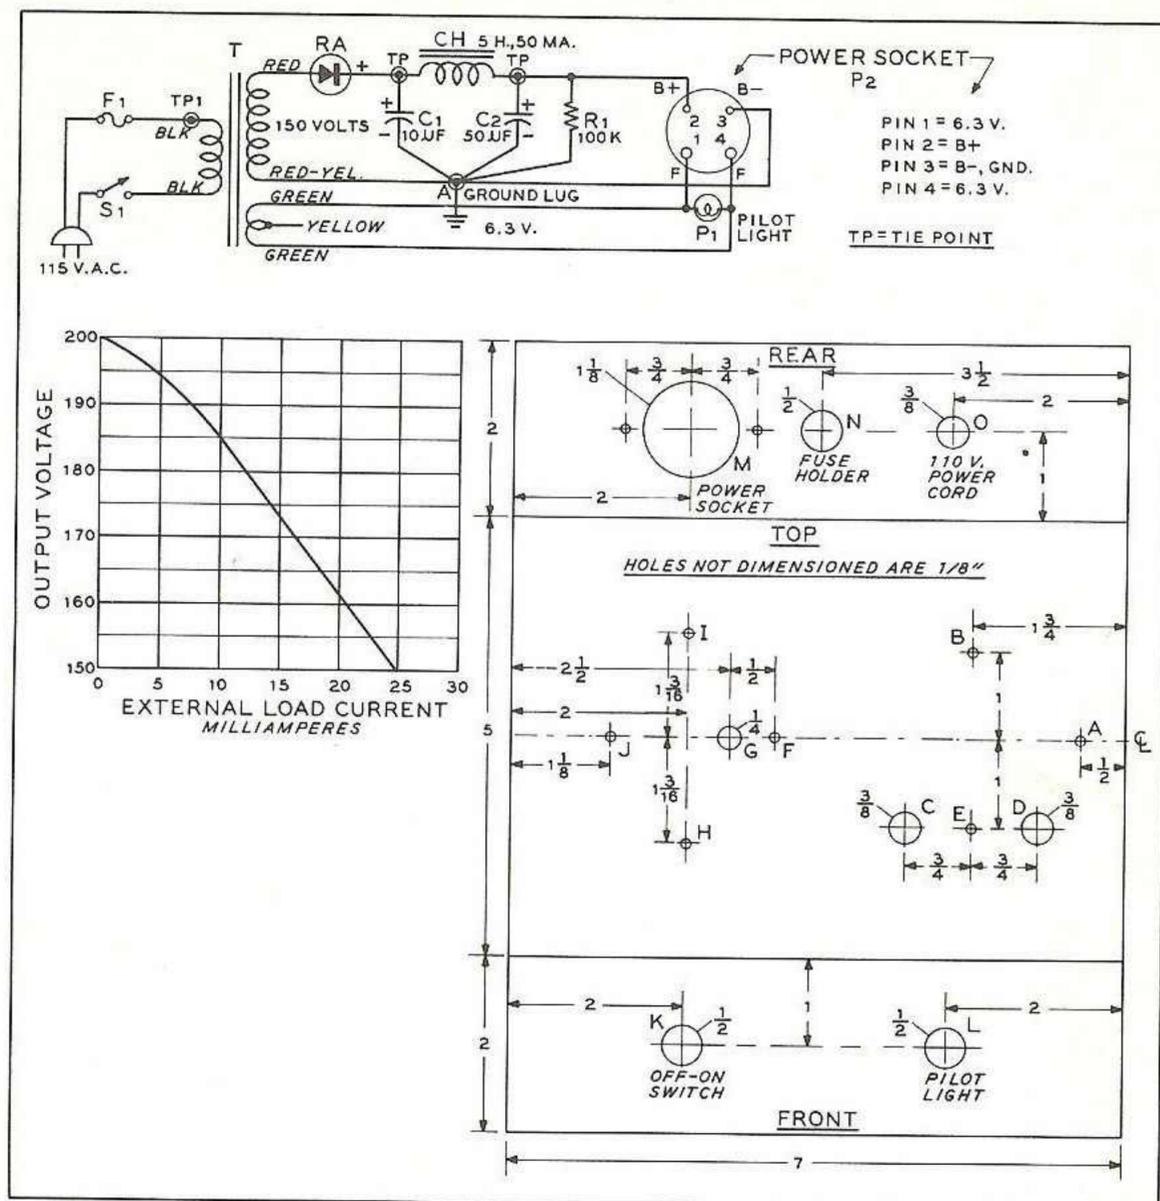

Fig. 5 Schematic, regulation curve, and chassis layout of low voltage supply.
- ( ) Mark all the holes to be drilled in the chassis on the paper wrapper of the chassis, as shown in Figure 5. Drill the chassis, then remove the paper.
- ( ) Mount switch (S1) in hole (K). Mount pilot light assembly (P1) in hole (L). Mount fuse holder (F1) in hole (N).
- ( ) Mount power socket (P2) in hole (M), using 6-32 screws, nuts, and lockwashers.
- ( ) Insert  $\frac{3}{8}$ " rubber grommets in holes (C), (D), and (O).
- ( ) Insert a  $\frac{1}{4}$ " rubber grommet in hole (G).
- ( ) Attach a soldering lug under the chassis at hole (A).
- ( ) Mount the selenium rectifier (RA) at hole (J), using a long 6-32 screw, nut, and lockwasher.
- ( ) Attach the filter choke (CH) at holes (H) and (I), using 6-32 screws, nuts, and lockwashers.
- ( ) Mount the two terminal phenolic strip (TP) at hole (F), on the underside of the chassis.
- ( ) Mount the power transformer (T) atop the chassis at holes (B) and (E), using 6-32 screws, nuts, and lockwashers. On the underside of the chassis at hole (B), mount the one terminal phenolic strip (TP-1).
- ( ) Pass the 115-volt line cord through grommet (O) on the rear apron of the chassis and connect one lead of the cord to either terminal of fuse holder (F1). Connect the other lead to one terminal of switch (S1).
This completes the wiring of the power supply. Check all connections against the schematic diagram of Figure 5. Inspect the wiring for shorts to ground or poor connections. Insert a 1-ampere fuse in the holder, and place a #47 pilot lamp in the lamp holder. Plug the power cord into a 115-volt, 50-60 cycle receptacle. The pilot light should light instantly, and the fuse